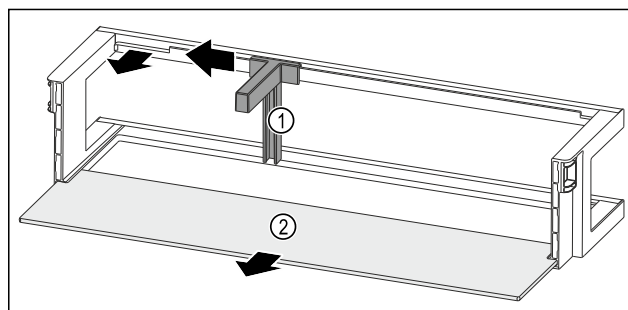

Fig. 89 Door racks with bottle holder and shelf
- Push the bottle holder Fig. 89 (1) to the side up to the recess.
- Remove the bottle holder Fig. 89 (1).
- Remove the shelf Fig. 89 (2).